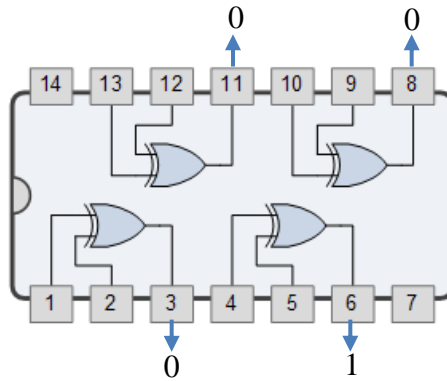

Figure 3(b)
- (i) Power dissipation, $P_{D(max)}$ on a DM7486 IC when the output condition is as shown in Figure 3(b). Assume that the V_{CC} used is maximum. (4 marks)